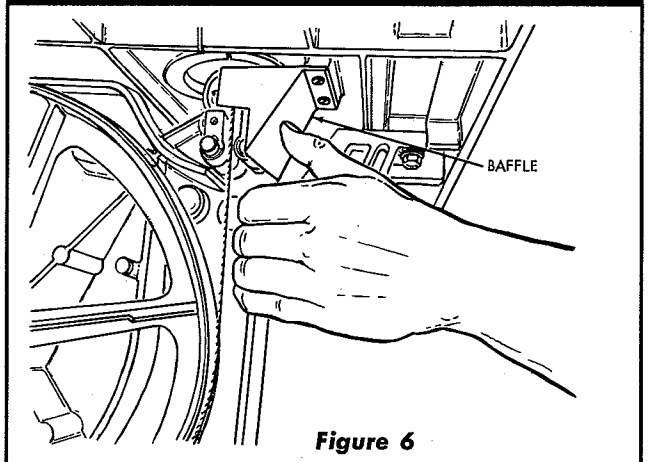

Figure 6
6. With saw table in horizontal position, grasp the forward flange of the frame with fingers and, with the thumb "snap" the lower end of baffle into position so it will direct sawdust through the dust passage in the frame. (See figure 6.)